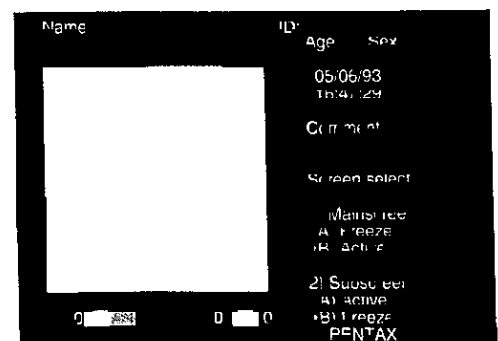

Fig. 46
2. The screen select sub-menu will be displayed (Fig. 46).